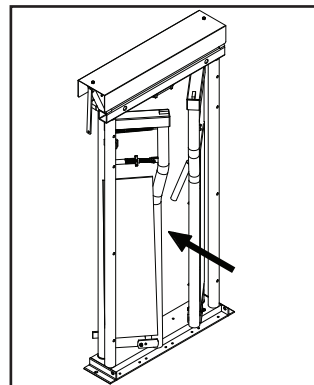

Figure 4: Loading the animal
1. With the doors properly adjusted, load the animal. The animal should approach the headgate from the rear of the machine, as shown (Figure 4).